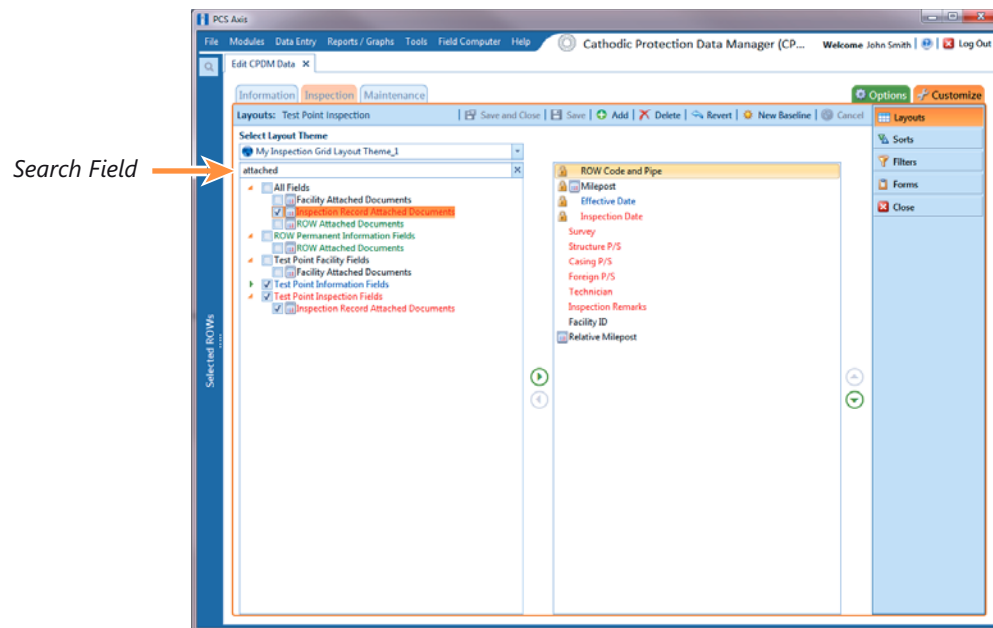

Figure 6-81. Layouts
- a Click the check box for the field **Inspection Record Attached Document** in the left pane of the window (Figure 6-81, page 253).